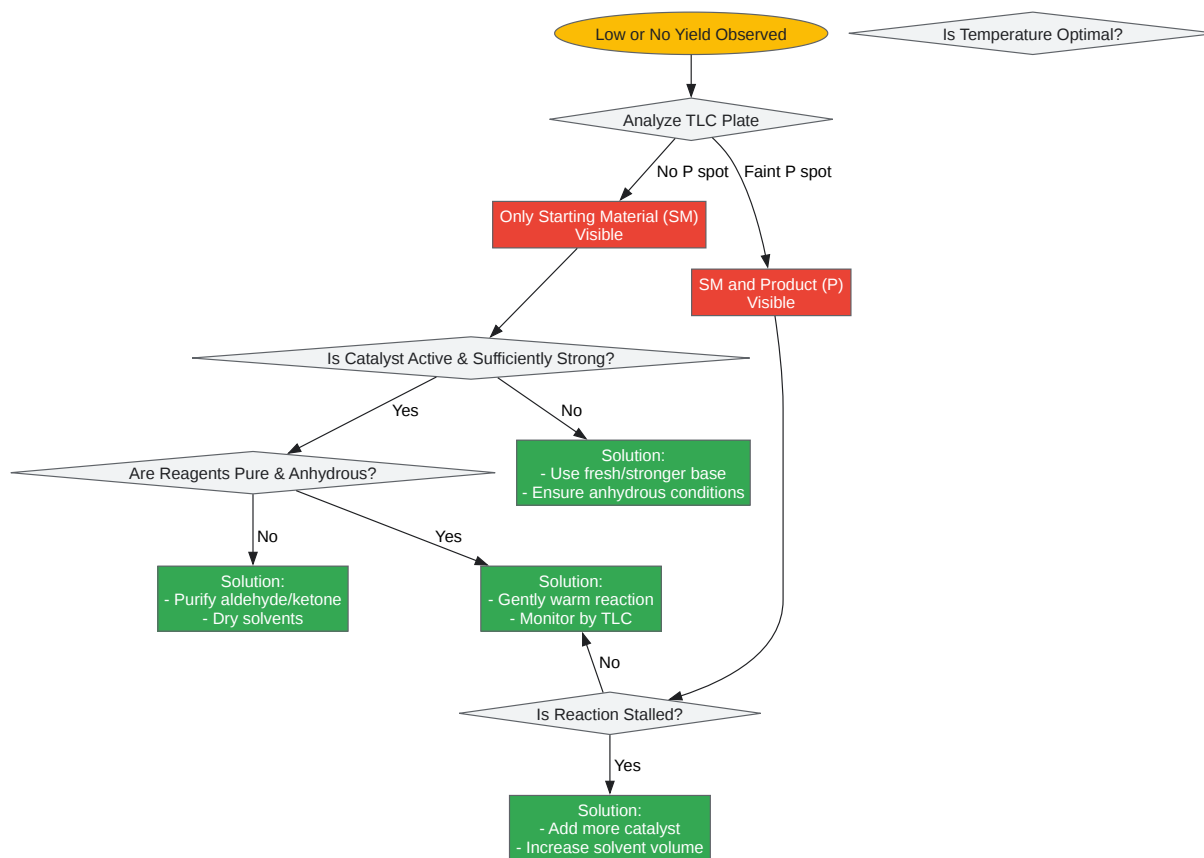

Figure 2: Decision Tree for Low Yield Issues
- Fig 2: Claisen Schmidt condensation using various acid/base catalysts. ResearchGate.